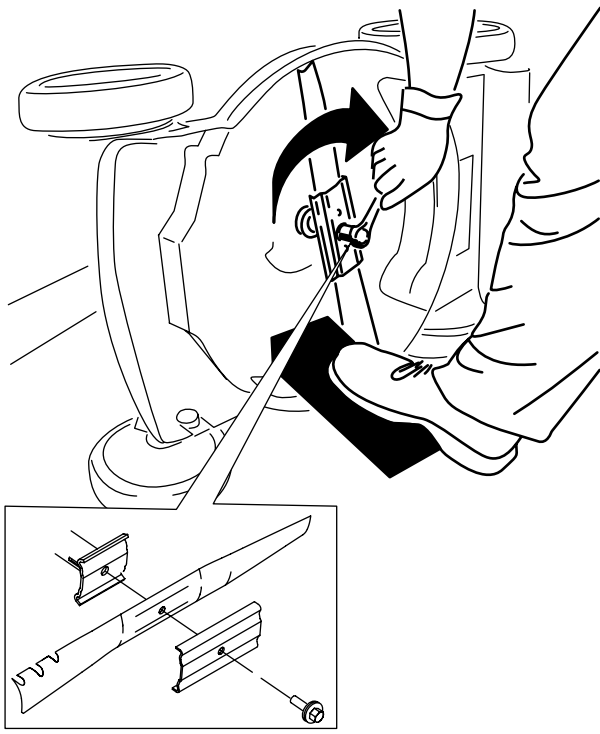

Figure 22
- Install the new blade and all mounting hardware (Figure 22).